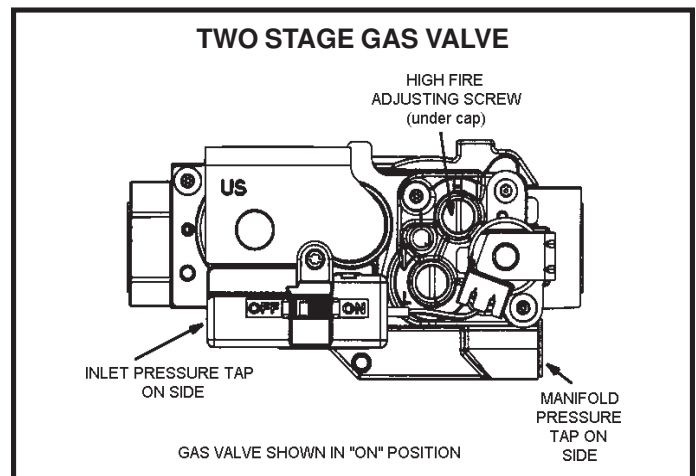

Figure 6
1. Connect test gauge to manifold pressure tap (Figure 6) on gas valve.
4. If necessary, make adjustments. Figure 6 shows location of high fire adjustment screw.